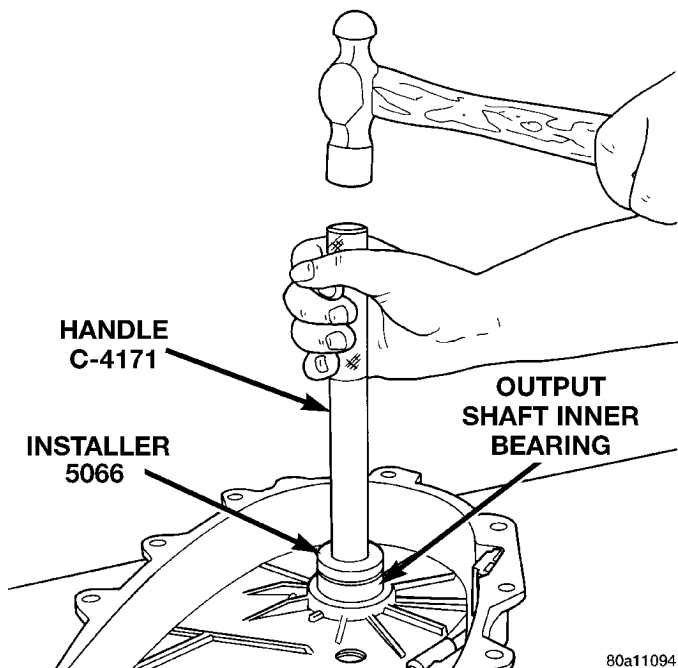
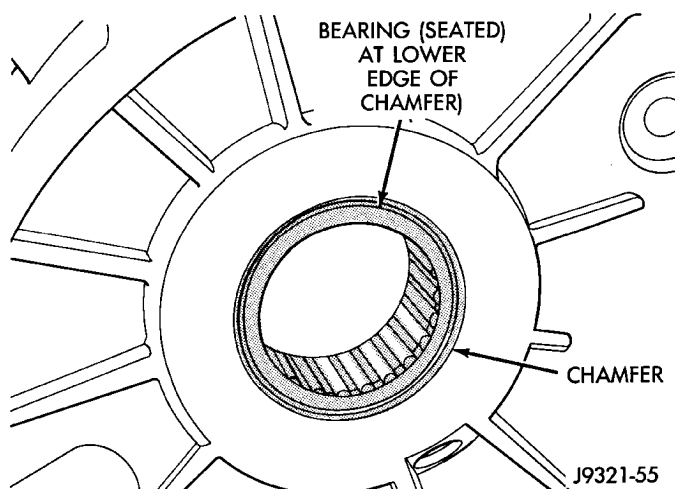

Fig. 48 Output Shaft Rear Bearing Installation
Fig. 49 Output Shaft Rear Bearing Installation Depth
(8) Install new bearing with Tool Handle C-4171 and Installer 5066 (Fig. 48). The bearing bore is chamfered at the top. Install the bearing so it is flush with the lower edge of this chamfer (Fig. 49).